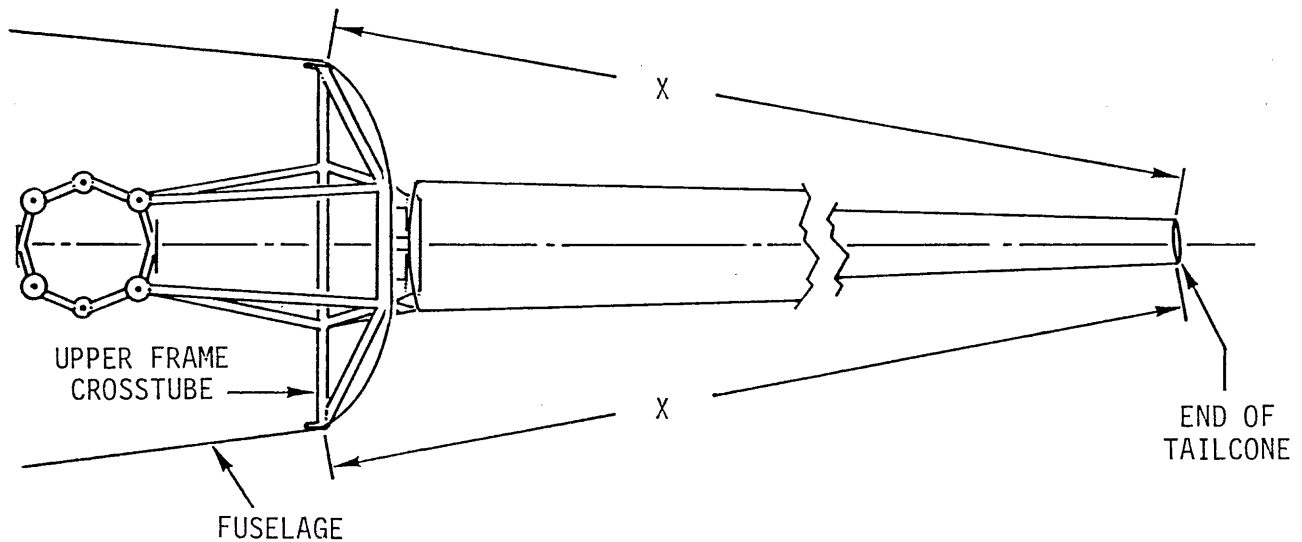

FIGURE 4-2B LATERAL TAILCONE CENTERING
4. Refer to Figure 4-2B. Measure from left and right lower frame vertical strut-to-upper steel tube frame attach points to aft end of tailcone; these measurements should be equal on both sides. Center tailcone laterally as required.